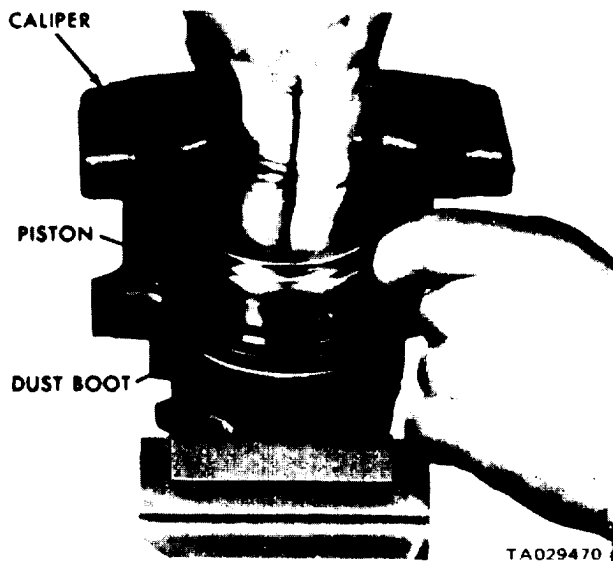

Figure 22-10. Installing Piston.
- (5) Coat the piston with brake fluid.
- (6) Spread the boot with your fingers and work the piston into the boot (figure 22-10). Push it down until it bottoms.